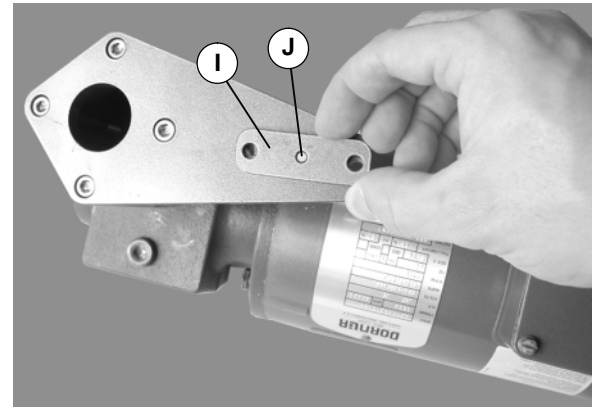

Figure 10
3. Remove gearmotor mount spacer (I of Figure 10) and pin (J) from the mounting package typical mounting package shown, individual mounting package vary.